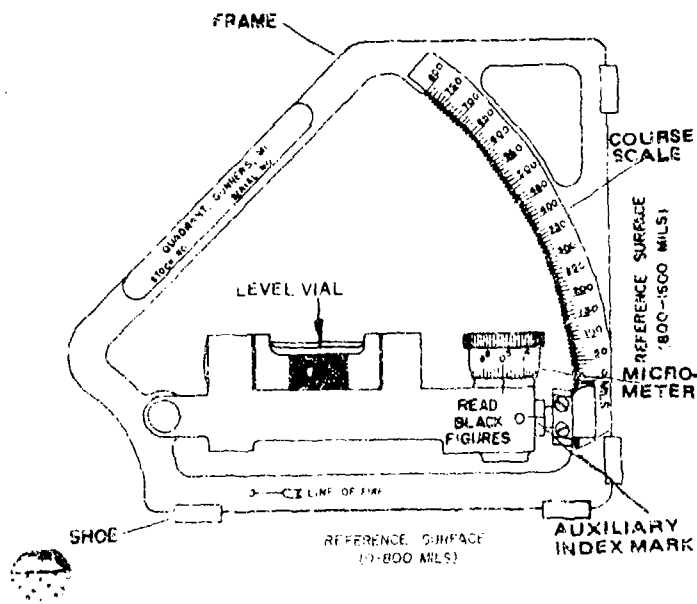

Figure 8-21. Gunner's quadrant M1.
**a.** The gunner's quadrant M1/M1A1/M2A2 (fig 8-21) is used on the 8-inch howitzer primarily during sight tests and adjustments. However, it may be used to lay the weapon for elevation if the elevation quadrant M15 or the elevation portion of the telescope mount M137 is inoperable. It may also be used to lay the weapon to the nearest tenth of a mil in elevation.